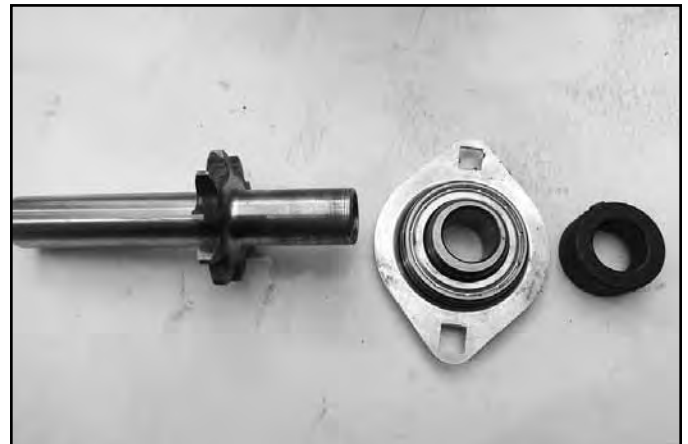

Fig. 114
- Remove the bearing from the shaft and the output shaft from the transmission (Fig. 114).